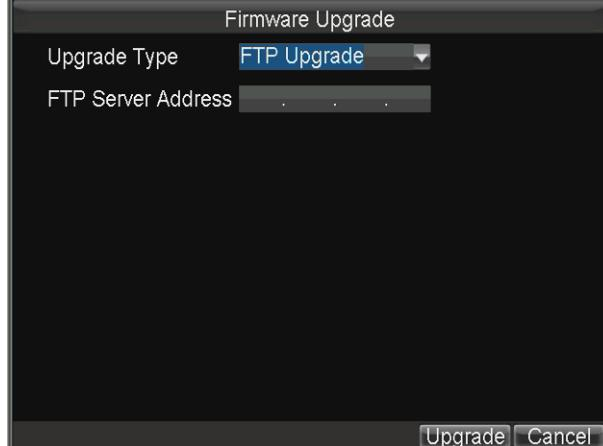

Figure 8.3 Upgrade Interface
1. Enter the Upgrade interface and set upgrade type to FTP Upgrade, as shown in Figure 8.3.